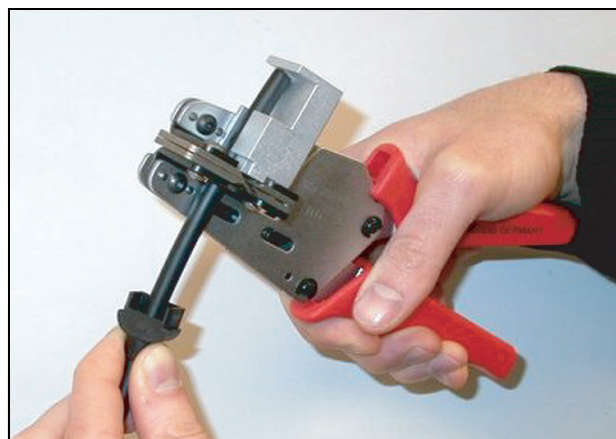

figure 30.7: Stripping the cable
- 5 Using the stripping tool (tool 5), strip the outer sheath of the cable by pushing the cable to the mechanical stop (see figure 30.7).